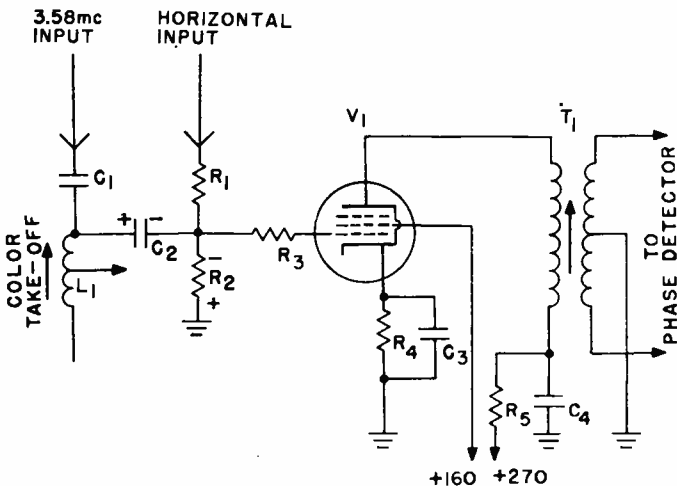

Fig. 18. A single-stage burst amplifier.
A single-stage burst amplifier is shown in Fig. 18. In the circuit in which this amplifier is used, the color signal is taken directly from the video amplifier and fed through the capacitor, C_1 . The capacitor has a relatively small value so that low-frequency video signals are prevented from getting into the circuit. The capacitor, C_1 , and the coil, L_1 , are tuned to resonance at 3.58 mc and hence we have a series-resonant circuit. The signal fed to the bandpass amplifier is taken off from the tap on L_1 whereas the signal across the entire coil is fed through C_2 and R_3 to the grid of the burst amplifier, V_1 .
- (r) What type of color signal is fed to the grid of the burst amplifier stage shown in Fig. 18?